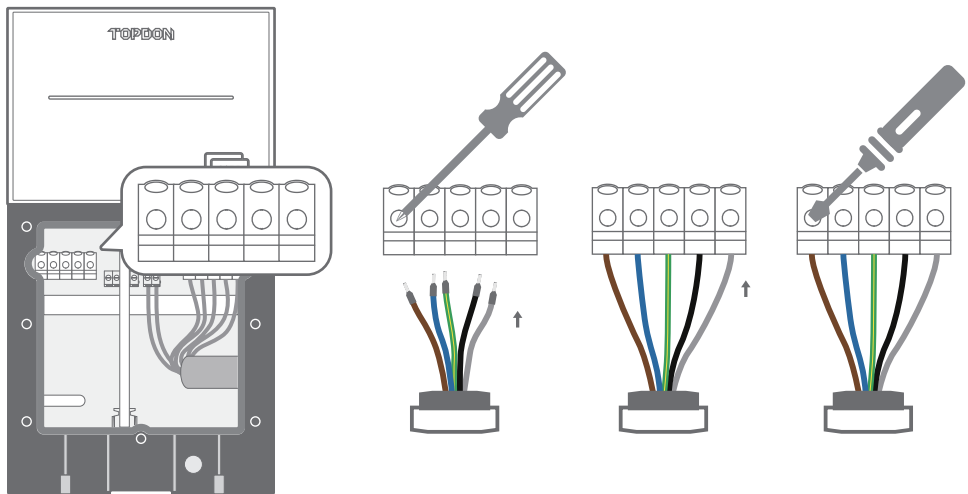

Fig. 5-16
7. Loosen the five terminal screws with a Phillips screwdriver and fully insert each wire connector into its correct terminal block. Use a torque screwdriver to tighten the terminal screws with a torque of 19.6 N.cm. (See Fig. 5-16)